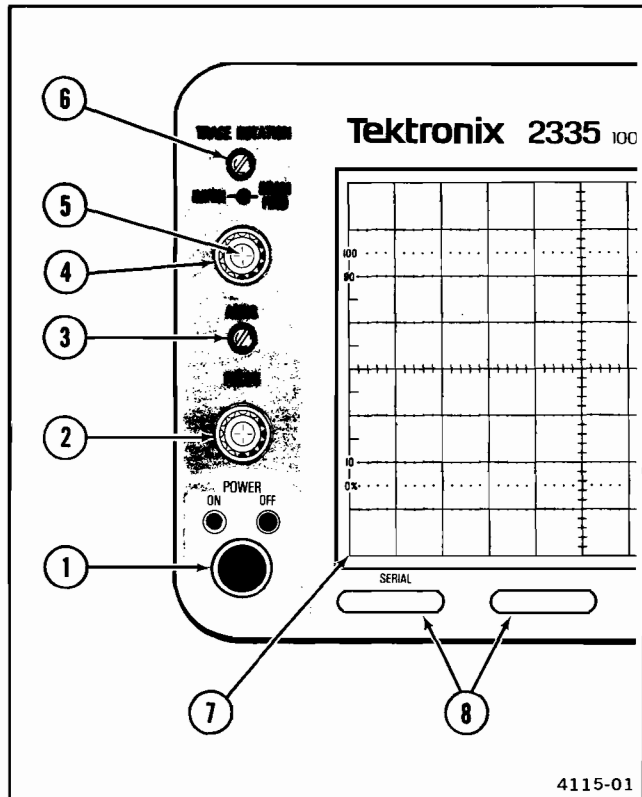

Figure 2-3. Display and power controls and indicators.
Refer to Figure 2-3 for location of items 1 through 8.
- ① **POWER Switch**—Turns instrument power on and off. Press in for ON; press again for OFF.
- ② **FOCUS Control**—Adjusts for optimum display definition.
- ③ **ASTIG Control**—Screwdriver control used in conjunction with the FOCUS control to obtain a well-defined display over the entire graticule area. It does not require readjustment during normal operation of the instrument.
- ④ **INTEN Control**—Determines the brightness of the crt display (has no effect when BEAM FIND switch is pressed in).
- ⑤ **BEAM FIND Switch**—When held in, compresses the display to within the graticule area and provides a visible viewing intensity to aid in locating off-screen displays.
- ⑥ **TRACE ROTATION Control**—Screwdriver control used to align the crt trace with the horizontal graticule lines.
- ⑦ **Internal Graticule**—Eliminates parallax viewing error between the trace and graticule lines. Rise-time amplitude measurement points are indicated at the left edge of the graticule.
- ⑧ **SERIAL and Mod Slots**—The SERIAL slot is imprinted with the instrument's serial number. The Mod slot contains the option number that has been installed in the instrument.